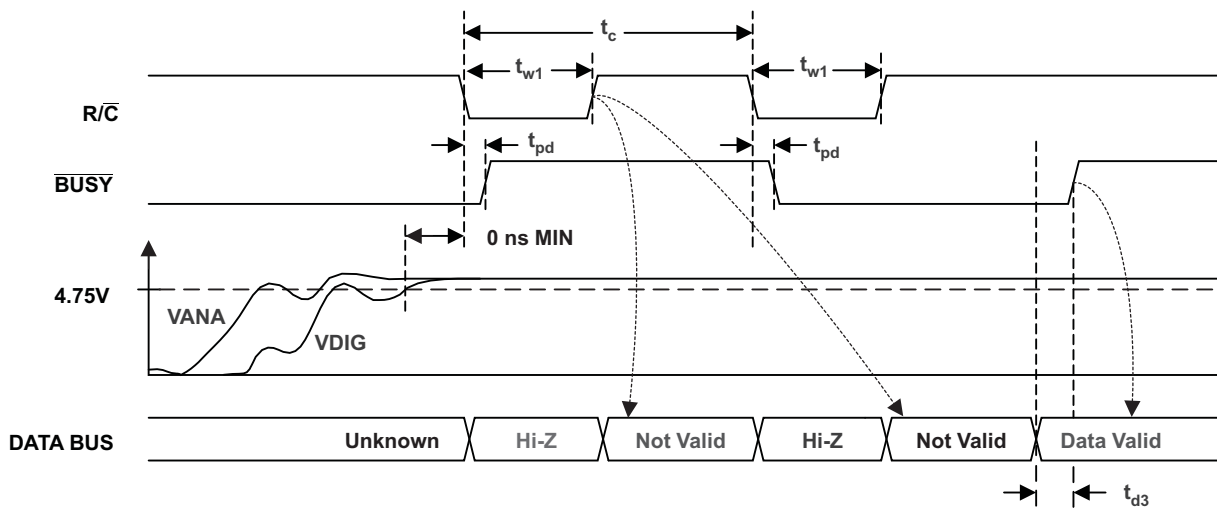

Figure 26. ADC Reset
The combination of  $\overline{CS}$  (pin 25) and  $R/\overline{C}$  (pin 24) low for a minimum of 40 ns immediately puts the sample/hold of the ADS8505 in the hold state and starts conversion  $n$ .  $\overline{BUSY}$  (pin 26) goes low and stays low until conversion  $n$  is completed and the internal output register has been updated. All new convert commands during  $\overline{BUSY}$  low will abort the conversion in progress and reset the ADC (see Figure 26).
(2) See Figure 26 for details on ADC reset.